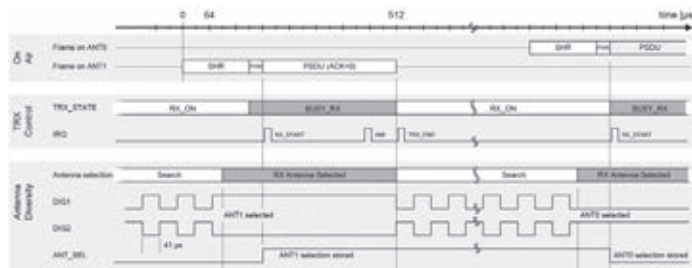
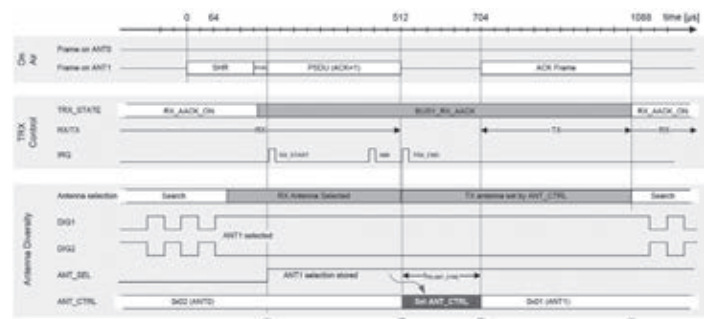

Figure 3: Antenna Diversity Operating Principle during Receive.
Figure 4: Antenna Diversity in Extended Operating Mode.
Exemplary, the function and behavior of the control signals DIG1/DIG2 during receive is shown in Figure 3.
In contrast to that, the antenna defined by register bits ANT\_CTRL (register 0x0D, ANT\_DIV) is used for transmission. If, for example, the same antenna should be used for transmission as being selected by the AT86RF231 for reception, the antenna must be set using register bits ANT\_CTRL (register 0x0D, ANT\_DIV), according to the value read from register bit ANT\_SEL. At the earliest, IRQ\_2 (RX\_START), as an indication of successful PHR reception, can be used to set register bits ANT\_CTRL, refer to Figure 4 (1). However, for RX\_AACK it is recommended to enable IRQ\_3 (TRX\_END) only. [1] This interrupt is issued if a frame passes the frame filtering and has a valid FCS.
As an example, the application of Antenna Diversity in Extended Operating Mode RX\_AACK is shown in Figure 4. In contrast to the example in Figure 3, an acknowledgement frame is automatically transmitted after a TurnaroundTime (3). To define, that the same antenna is used for transmission as for reception, the register bits ANT\_CTRL are to be set within  $t_{TR,ANT\_CTRL}$ , accordingly.